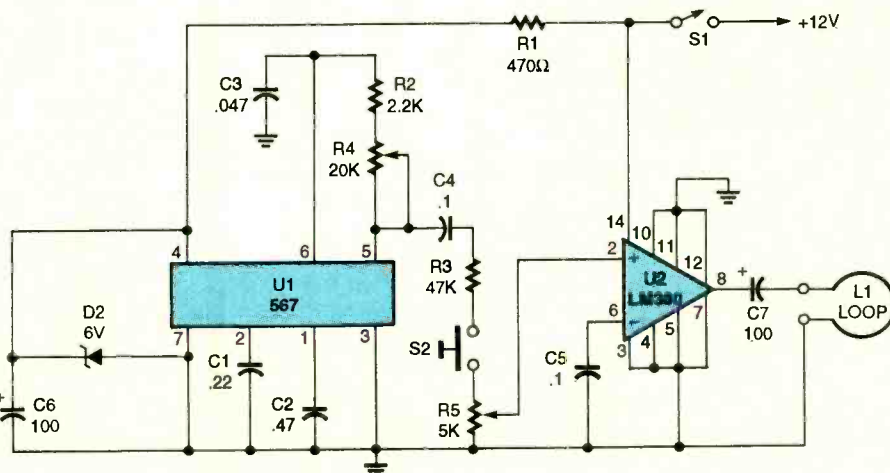

Fig. 5. This transmitter circuit generates a single tone and drives it into a loop for pickup elsewhere. It's ideal as a remote-control transmitter.
A single-tone encoder/transmitter is shown in Fig. 5. A 567 tone decoder IC (U1) is connected as a single-tone encoder. The tone frequency is determined by the values of C3, R2, and the frequency-control potentiometer, R4, and may be set to any desired frequency between about 500 Hz and 8 kHz.
**PARTS LIST FOR THE REMOTE-CONTROL TRANSMITTER (Fig. 5)**